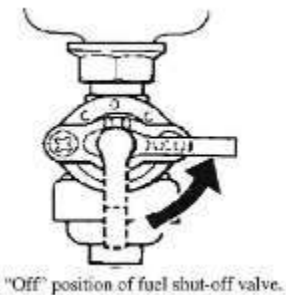

Figure 6
- Set the fuel shut-off valve to the “ OFF” position during transport (Fig. 6)